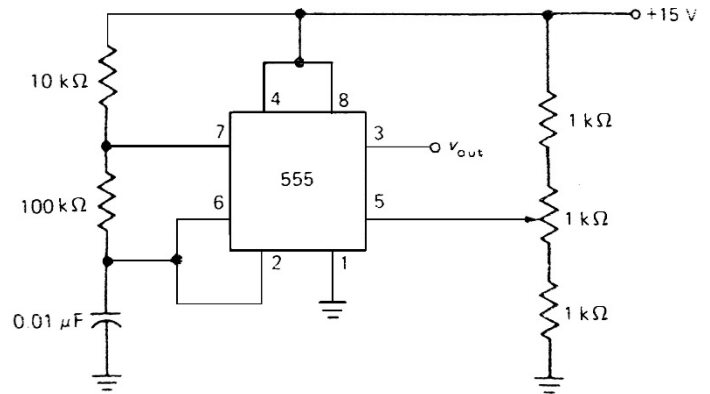

Figure 5.10. Experimental Voltage-controlled Oscillator
1. Connect the circuit of VCO in figure 5.10!